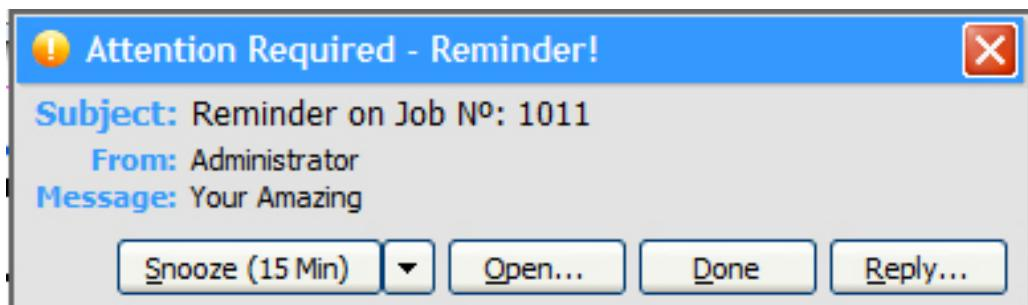

Figure 11.10 - A Reminder
The following screen is displayed when a reminder is received in the bottom right hand corner, see figure 11.10 - A Reminder.
- Once a reminder appears as seen in Figure 11.10 A Reminder. you can *click* on the 'Open' button to view the Reminder details. It can be either about a Order, Job, Employee or even a Sale.
1. Once a reminder appears as seen in Figure 11.10 - A Reminder. **Click** on the 'Discard' button to mark the Reminder as read.